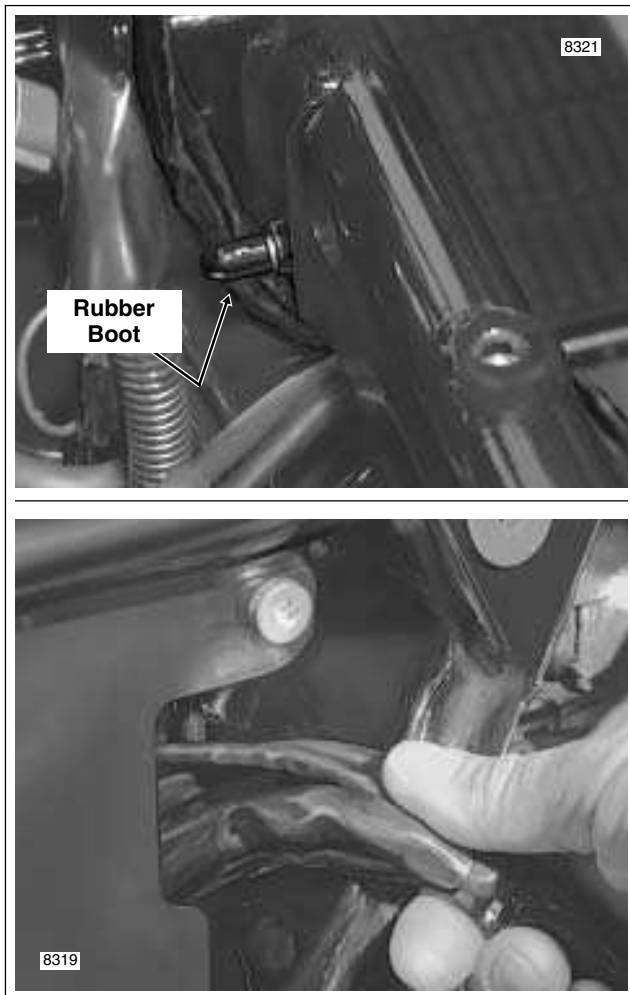

Figure 8-162. Remove Main Harness From Vehicle
Damage to wires can result in electrical problems. Be sure that rubber boot is present on threaded end of battery box TORX screw. Replace rubber boot if absent or damaged. See upper frame of Figure 8-162.
- g. Note that a section of the main harness conduit runs forward of the front battery box TORX screw. Pull conduit to the rear of the screw, and then feed ICM, data link, VSS, and security siren conduit and connectors through opening into battery box. See upper and lower frames of Figure 8-162.
ECM, fuse block, data link, VSS, and security siren conduit and connectors through opening into battery box. See upper and lower frames of Figure 8-162.
30. Carefully pull voltage regulator, CKP sensor, oil pressure switch/sender, rear brake light switch, starter solenoid, and neutral switch conduit and connectors rearward and then feed up through opening at front of battery tray into battery box. See lower frame of Figure 8-162.
- b. Feed connectors and conduit into battery box pulling branches out through opening on right side. See lower frame of Figure 8-162. Allow connectors and conduit to hang on right side of motorcycle.
- b. Carefully feed connectors and conduit into battery box and then pull out through opening on right side. See lower frame of Figure 8-162. Allow connectors and conduit to hang on right side of motorcycle.
- c. Pull on main harness to eliminate slack and tuck conduit into space in front of the battery box TORX screw. See upper frame of Figure 8-162.